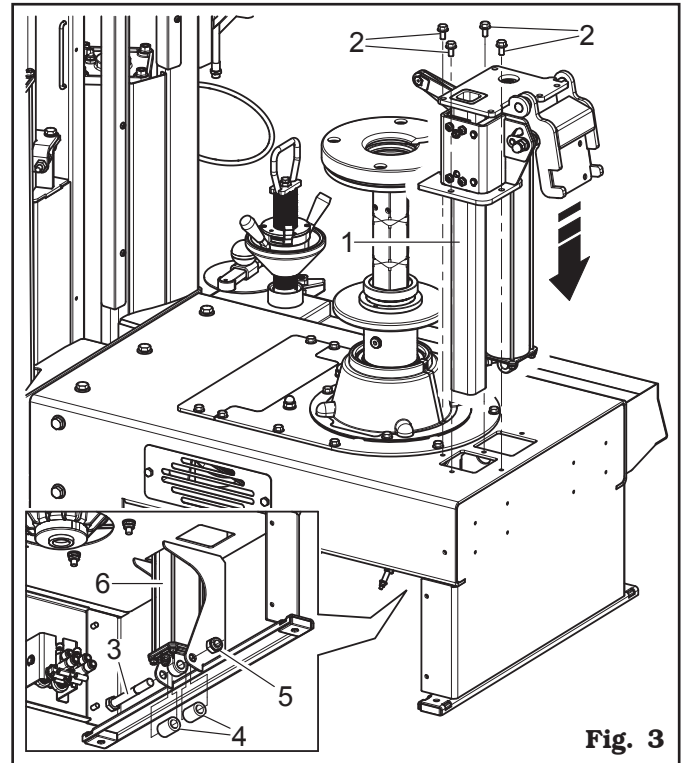

Fig. 3
3. Insert the base support (Fig. 3 ref. 1) in the pre-arranged seat on the tyre-changer frame screwing up the screws (Fig. 3 ref. 2) on issue. Fasten the cylinder base (Fig. 3 ref. 6) to the tyre-changer frame through the screw (Fig. 3 ref. 3) and the nut (Fig. 3 ref. 5), laying the ferrules (Fig. 3 ref. 4) on issue.